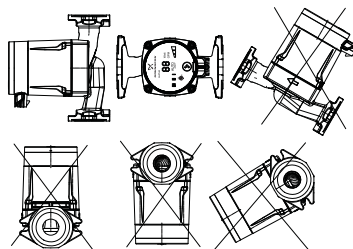

Fig. 2 Installation positions
- Install the pump with horizontal motor shaft. See fig. 2.